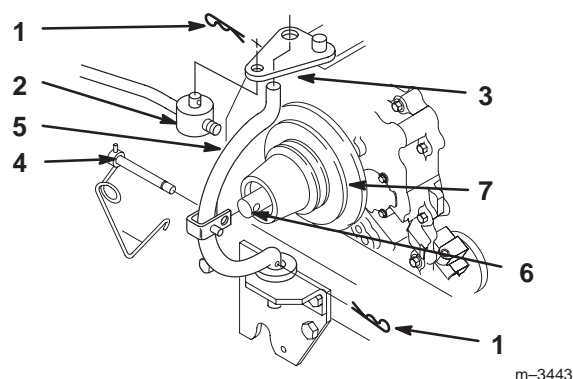

Figure 34
4. Unlatch and remove locking clevis pin that secures yoke assembly to clutch shaft. Pivot yoke out and forward to remove from clutch shaft and engagement plate (Fig. 34).
5. Replace belt in inside pulley groove (Fig. 34).
6. Assemble yoke and engagement plate and attach locking clevis pin, trunnion and hairpin coppers to secure (Fig. 34).